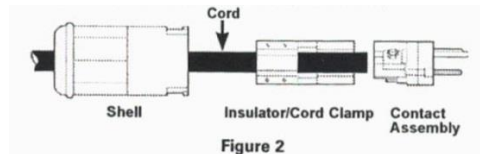

Figure 2
2. Slide shell onto cord. Loosen 4 cord clamp screws and slide insulator onto cord. (See Figure 2) Move shell and insulator up the cord and away from cord end so you can freely work on the cord end and prepare the conductors for termination.